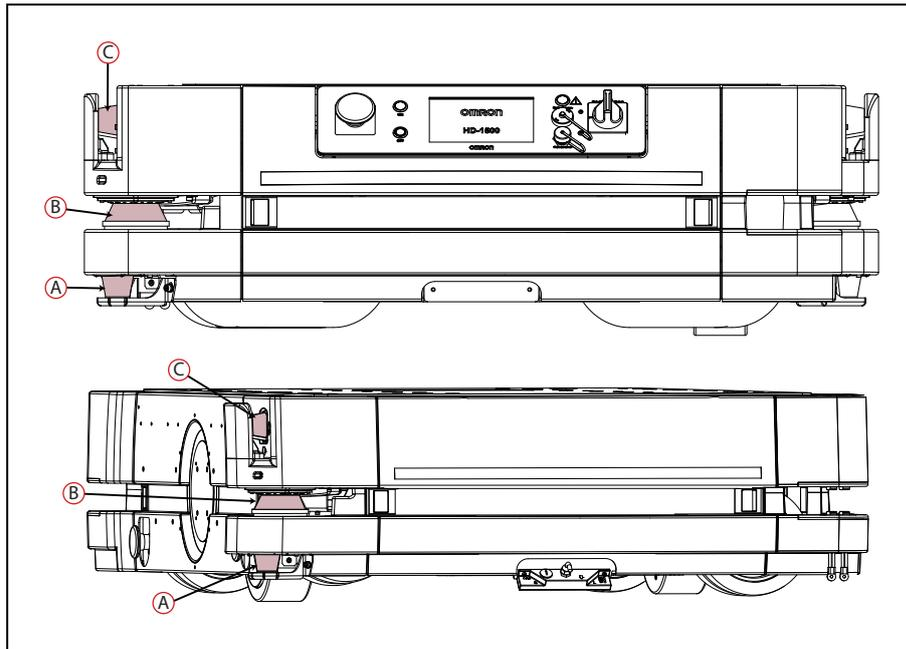

Figure 7-29. HD-1500 Lasers, (A) Low Lasers, (B) Safety Scanning Lasers, and (C) Side Lasers
The HD-1500 platform has four lasers for navigation and safety; two installed in the front and two in the back. See: Figure 7-29. Optional side lasers ((C) in Figure 7-29. ) are also available and may be purchased as peripheral devices. See: Side-Mount Lasers on page 276.
Each safety scanning laser ((B) in Figure 7-29. ) provides readings in a 270° field of view, with a typical maximum range of 30 m. With the two safety scanning lasers each covering a 270° field of view, the HD-1500 has a full safety coverage of 360°. The lasers operate in a single plane, positioned at 175 mm above the floor.
The two low lasers ((A) in Figure 7-29. ) detect obstacles below the scanning plane of the safety scanning laser, such as an empty pallet or fork truck tines, which are too low for the safety scanning laser to see. The low lasers are positioned 60.5 mm above the floor, and can detect objects that are at least 60.5 mm tall.